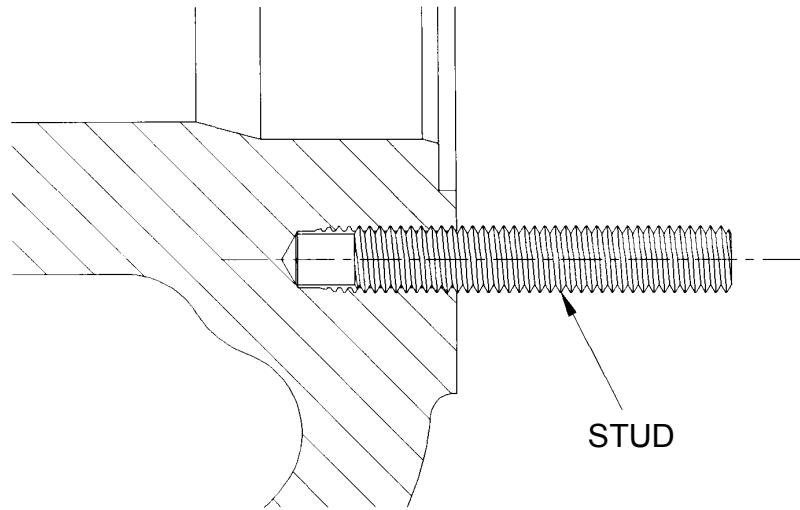

FIGURE 1-11: DOG POINT STUDS
- When studs and nuts are specified for cylinder applications, tighten the nuts to the same values as cap screws in similar applications. Reference Figure 1-11: